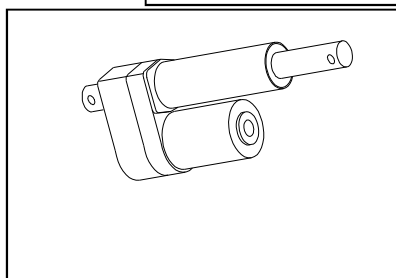

FIG 77-2
5. Attach the depth command actuator (fig. 77-2) to the light sensor mount and the tool bar.